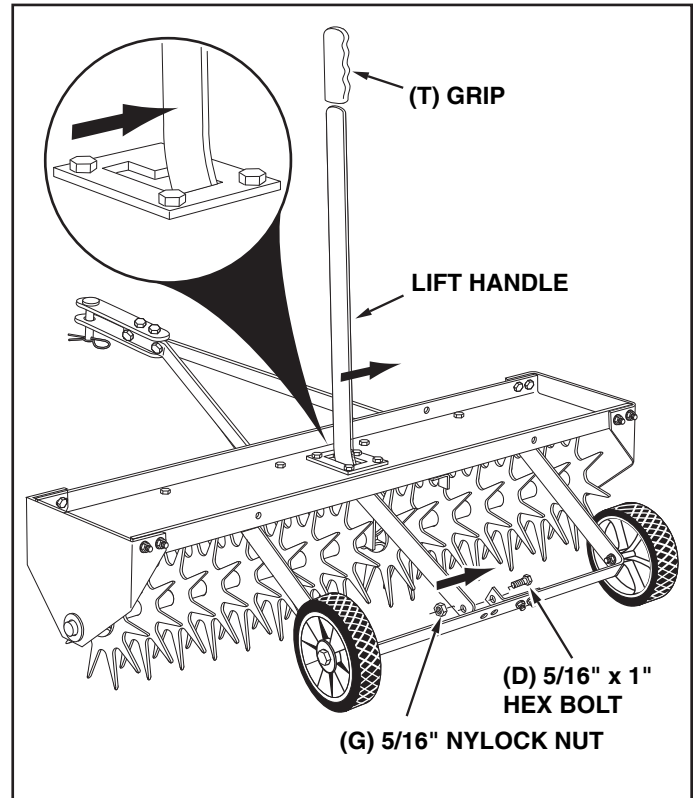

FIGURE 15 REAR VIEW
25. Assemble the lift handle through the tray and attach it to the hitch arm mount bracket assembled to the axle bracket. Use a 5/16" x 1" hex bolt (D) and a 5/16" nylock nut (G). **Tighten.** See figure 15.
26. Position the hitch arm mount bracket so that there is side tension on the lift handle when it is locked in the up position. **Tighten** the nuts. See figure 15.
27. Assemble the grip (Q) onto the end of the lift handle. See figure 15.